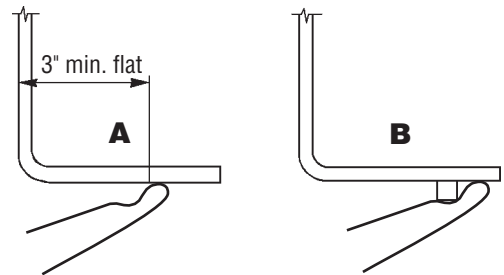

Figure 2
3. Cradle a support point in the notch at the end of the lift arm. See Figure 2-B. Always position the jack lift arm a minimum of 3 in. under a forklift with a flat underside. See Figure 2-A.